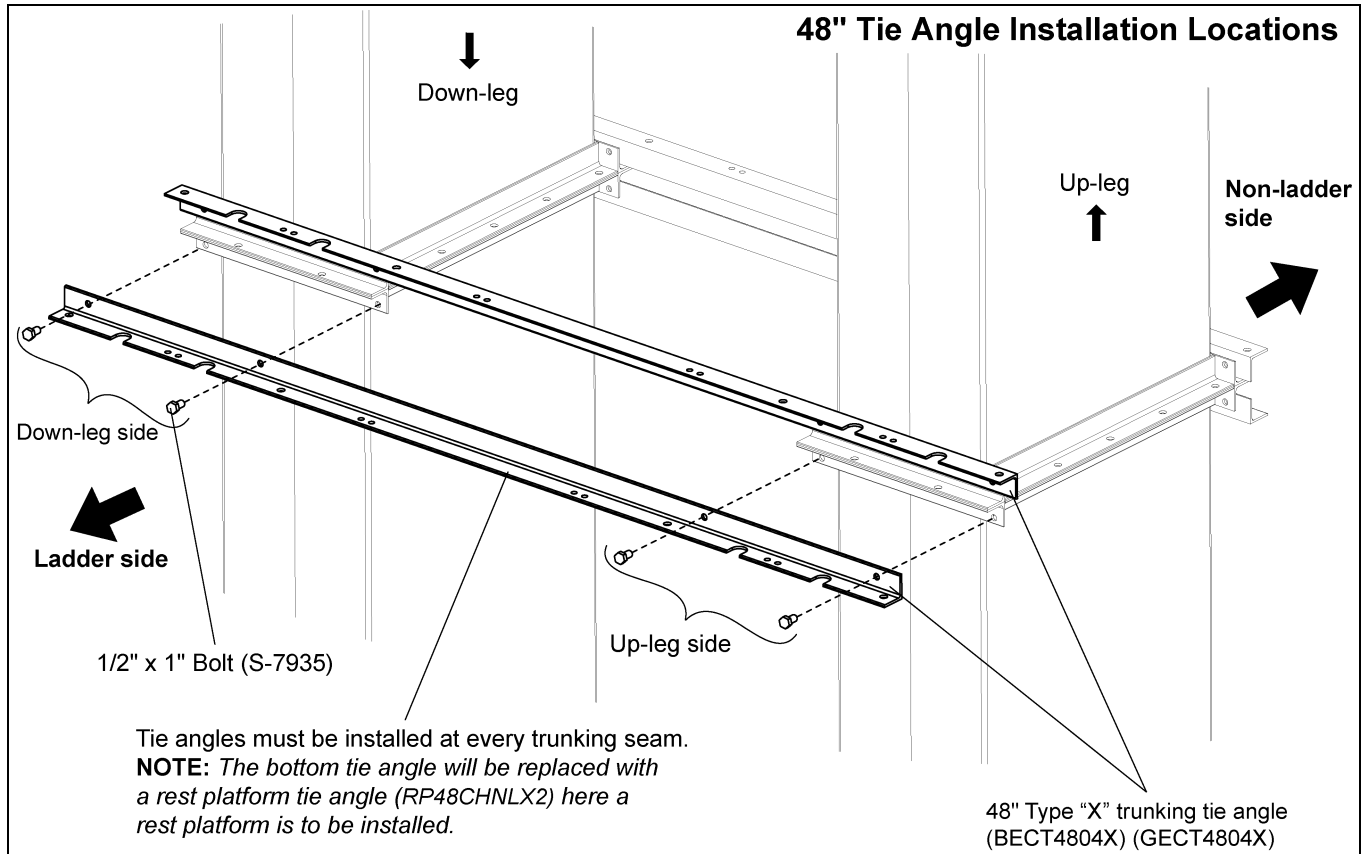
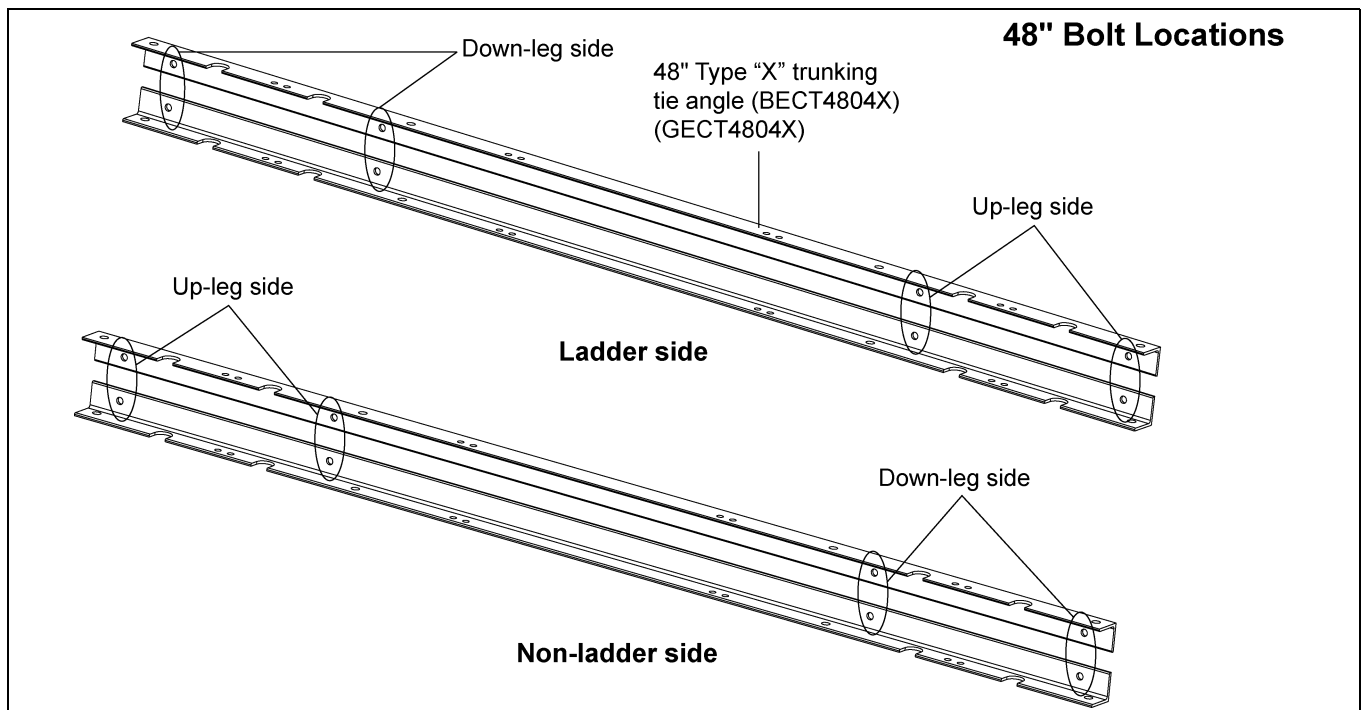

Figure 6L 48" Tie Angle Installation Locations
Figure 6M 48" Bucket Elevator Tie Angles to Trunking Bolt Locations
2. **For 48" Tie Angles:** Install two (2) tie angles (GECT4804X or BECT4804X) to both sides of the trunking seam using 1/2" x 1" HHCS bolts (S-7935) and 1/2" flange nuts (S-8506). (See Figure 6L and Figure 6M.)